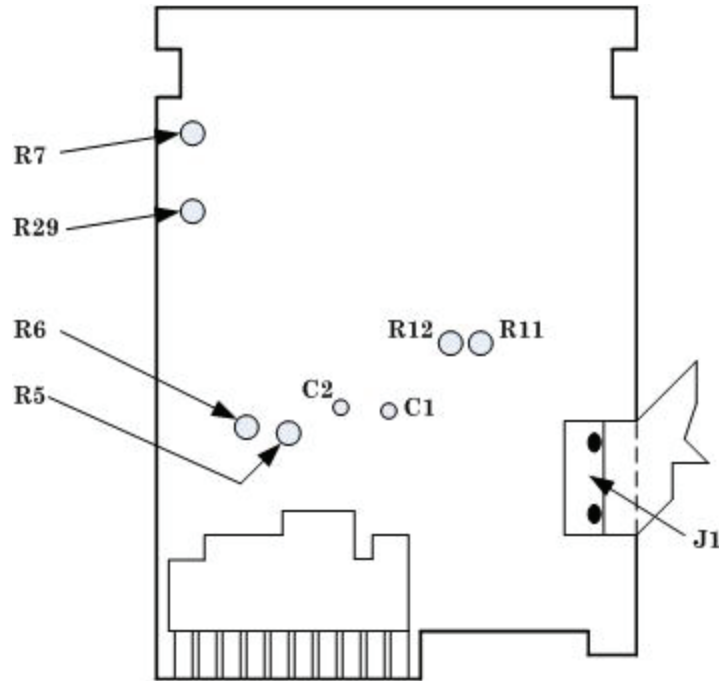

Figure 1. Adjustment locations.
- (1) Adjust R12 (fig. 1) for a TI indication of 190.00. (R)
- (2) Adjust R11 (fig. 1) for a TI indication of 1.9000. (R)
- (3) Adjust R5 (fig. 1) for a TI indication of 190.00. (R)
- (4) Adjust R6 (fig. 1) for a TI indication of 1000.0. (R)
- (1) Press **TI 2** range pushbutton and set calibrator for a 1.9 V, 45 Hz output. Adjust R7 (fig.1) for a **TI** indication of 1.9000 (±5 digits). (R)
- (2) Set calibrator for a 100 mV, 45 Hz output. Adjust R29 (fig. 1) for a **TI** indication of .1000 (±1 digit). (R)
- (3) Repeat (1) and (2) above until no further adjustments are required.
- (4) Press **TI 20** range pushbutton and set calibrator for a 19 V, 10 kHz output. Adjust C1 (fig. 1) for a **TI** indication of 19.000 (±10 digits). (R)
- (5) Press **TI 200** range pushbutton and set calibrator for a 100 V, 10 kHz output. Adjust C2 (fig. 1) for a **TI** indication of 100.00 (±5 digits). (R)
- (6) Repeat (4) and (5) above until no further adjustments are required.